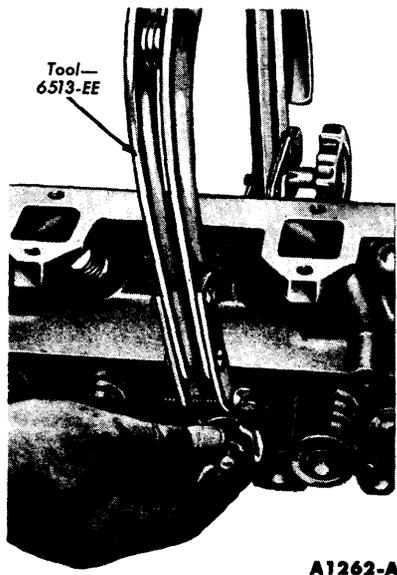

FIG. 28—Compressing Valve Spring
2. Compress the valve spring (Fig. 28). Remove the valve retainer locks and release the spring.
3. Compress the spring and install the retainer locks (Fig. 28).